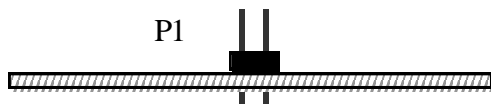

Figure 4
- Install the 10-pin, dual-row (5x2) male connector at P1, but do not solder yet. Figure 4 shows P1 as viewed from right side of the board. The plastic part of the connector must be on the **top** side of the board, with the long end of the pins pointed up. The short ends are inserted into the board.